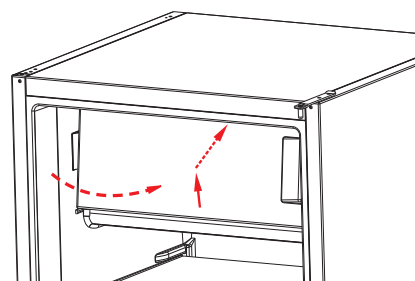

Fig. 5
- ▶ Remove the freezer compartment door by lifting the bottom up slightly and then pulling downwards (Fig. 5).